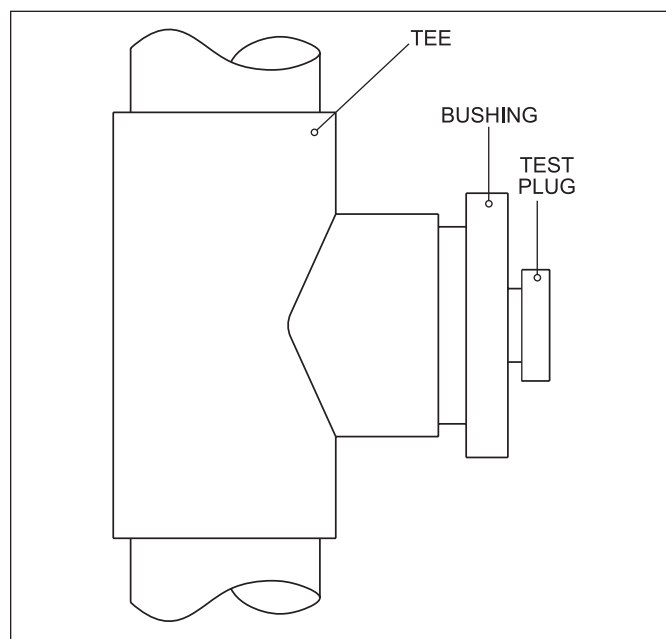

Figure 12. Test Port - ULC-S636 system
1. Figure 12 shows the requirements for mechanical vent terminal clearances for the U.S. and Canada.